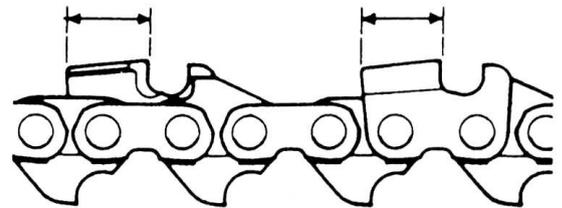

Fig. 4-6
- 5) Keep all cutters the same length. (Fig. 4-6)